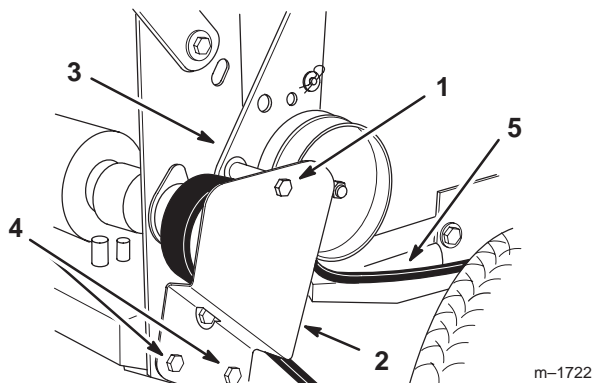

Figure 61
1. Remove the top capscrew securing idler support and idler bracket to rear frame (Fig. 61).
2. Loosen bottom two mounting screws enough to allow belt to pass between drive pulley and idler support (Fig. 61).
5. Install the top capscrew securing the idler support and idler bracket to the rear frame (Fig. 61).
6. Tighten the bottom two mounting screws enough to allow the belt to pass between the drive pulley and idler support (Fig. 61).